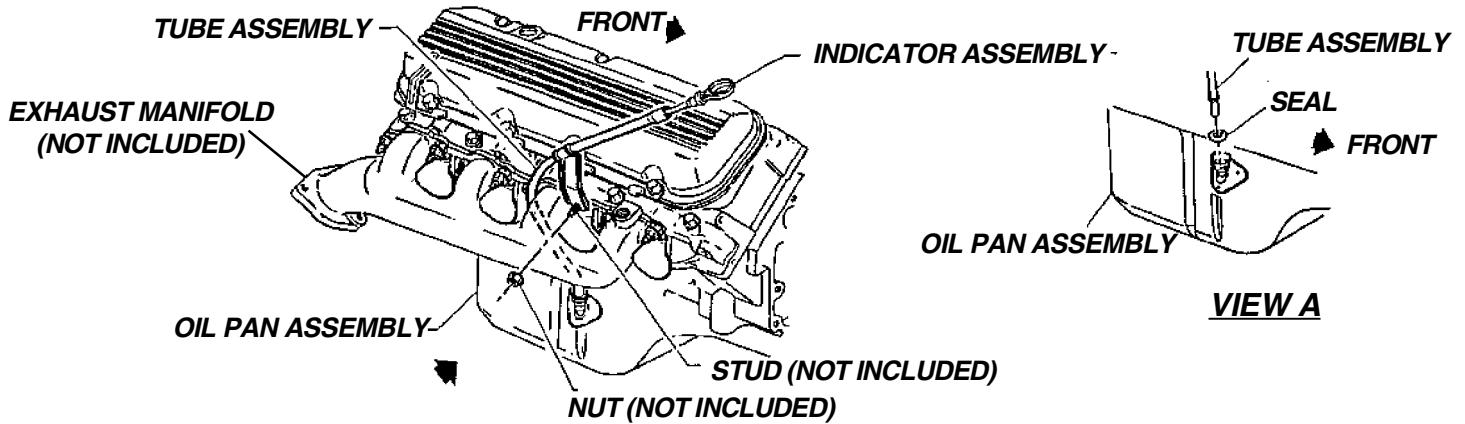

FIGURE 9
1. Place the seal on the end of the indicator tube and press the tube into the fitting in the oil pan. See Figure 9.